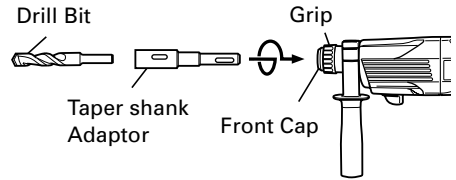
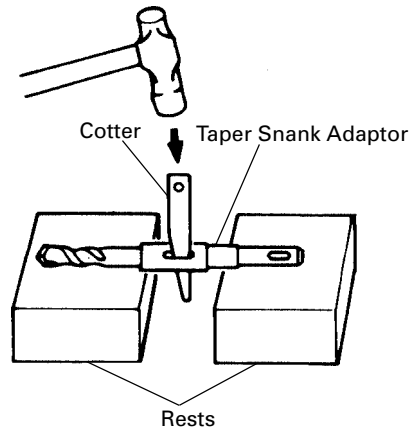

Fig. 12
Fig. 13
- (1) Mount the taper shank adaptor to the rotary hammer. (Fig. 12)
- (2) Mount the drill bit (taper shank) to the taper shank adaptor. (Fig. 12)
- (3) Turn the switch ON, and drill a hole in prescribed depth.
- (4) To remove the drill bit (taper shank), insert the cotter into the slot of the taper shank adaptor and strike the head of the cotter with a hammer supporting on the rests. (Fig. 13)